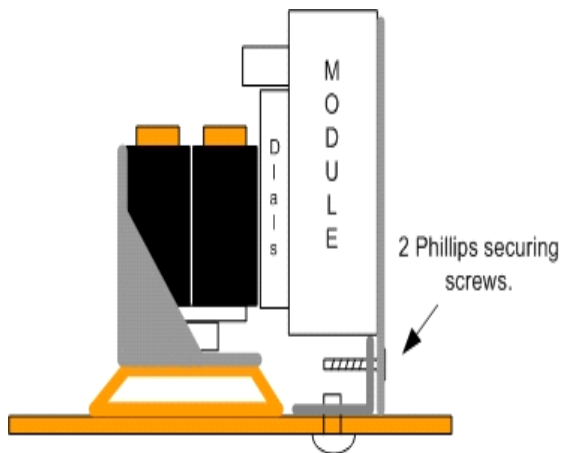
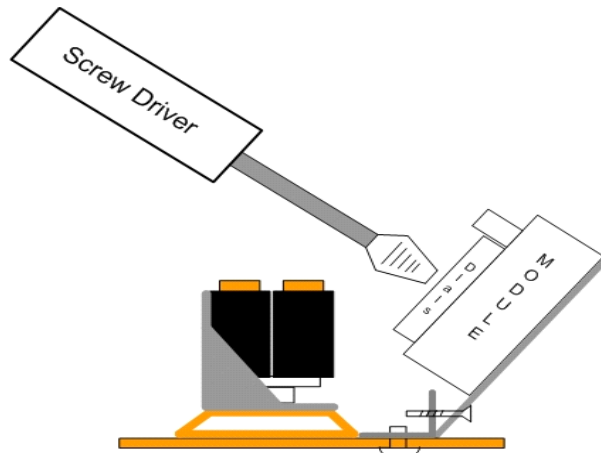

Figure 2.4.1 Install Module in Secure Position
Figure 2.4.2 Tilt Module Back for Addressing
1. To loosen the two securing screws, use a Phillips screwdriver and turn the screws counter-clockwise. (These screws are not intended to be removed). (See Figure 2.4.1 and Figure 2.4.2)
2. Tilt the module backwards (tilts to about 40 degrees). (See Figure 2.4.2)